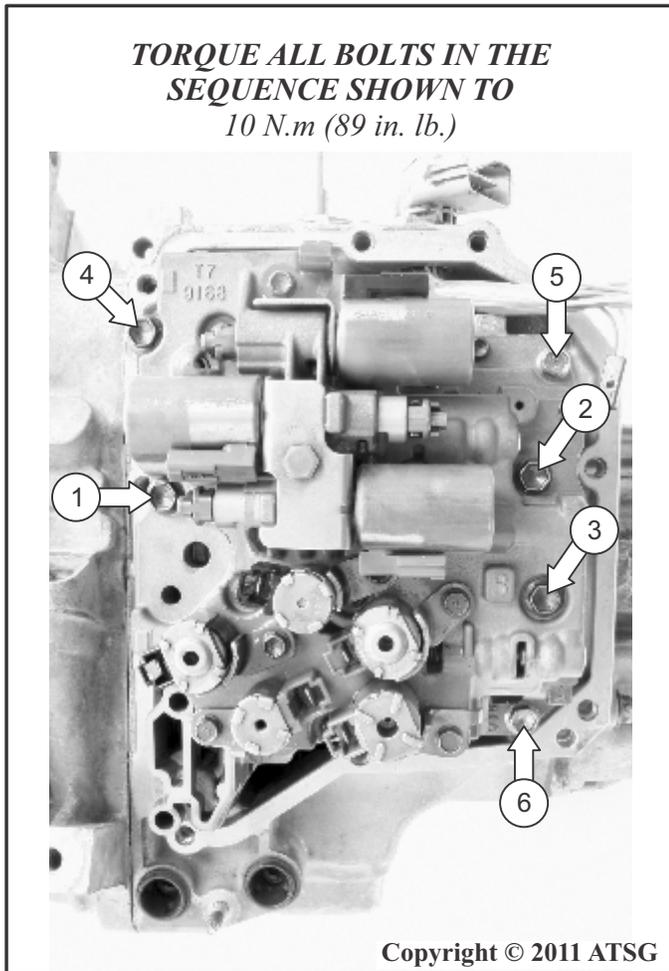

Figure 251
96. Torque the six control valve body assembly attaching bolts to *10 N.m (89 in. lb.)* in the sequence shown in Figure 251.